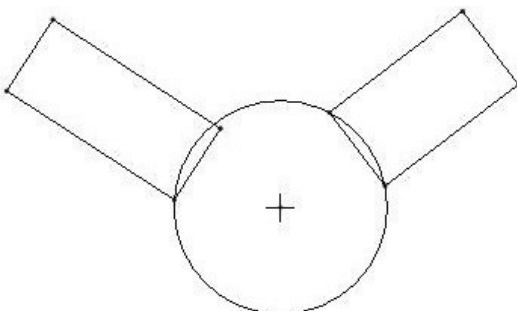

Figure 3-31 Circle through 3 Points
Step 23: Use  to draw a circle that goes through three points as seen in Figure 3-31.